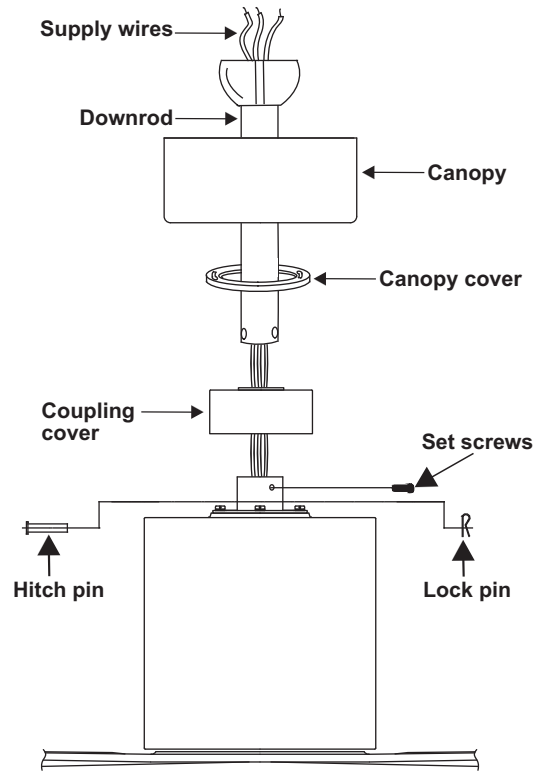

Figure 11
5. Loosen the two set screws and remove the hitch pin and lock pin from the central shaft/top coupling of the motor assembly. Doing so will allow the down rod to enter the central shaft. (Fig. 11)
6. Route wires exiting from the top of the fan motor through the coupling cover, canopy cover and then through the ball/downrod. (Fig. 11)
7. Align the holes at the bottom of the downrod with the holes in the collar on top of the motor housing. Carefully insert the hitch pin through the holes in the collar and downrod. Be careful not to jam the pin against the wiring inside the downrod. Insert the lock pin through the hole near the end of the hitch pin until it snaps into its locked position. (Fig. 11)